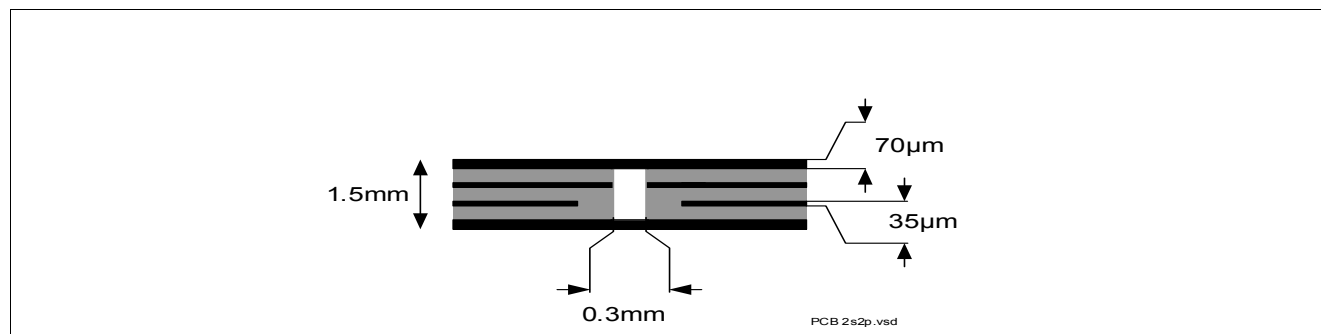

Figure 4 2s2p PCB Cross Section
2) Specified R_{thja} value is according to JEDEC JESD51-2,-5,-7 at natural convection on FR4 2s2p board; The product (chip + package) was simulated on a 76.4 x 114.3 x 1.5 mm board with 2 inner copper layers (2 x 70 μ m Cu, 2 x 35 μ m Cu). Where applicable, a thermal via array under the exposed pad contacts the first inner copper layer. Please refer to Figure 4.